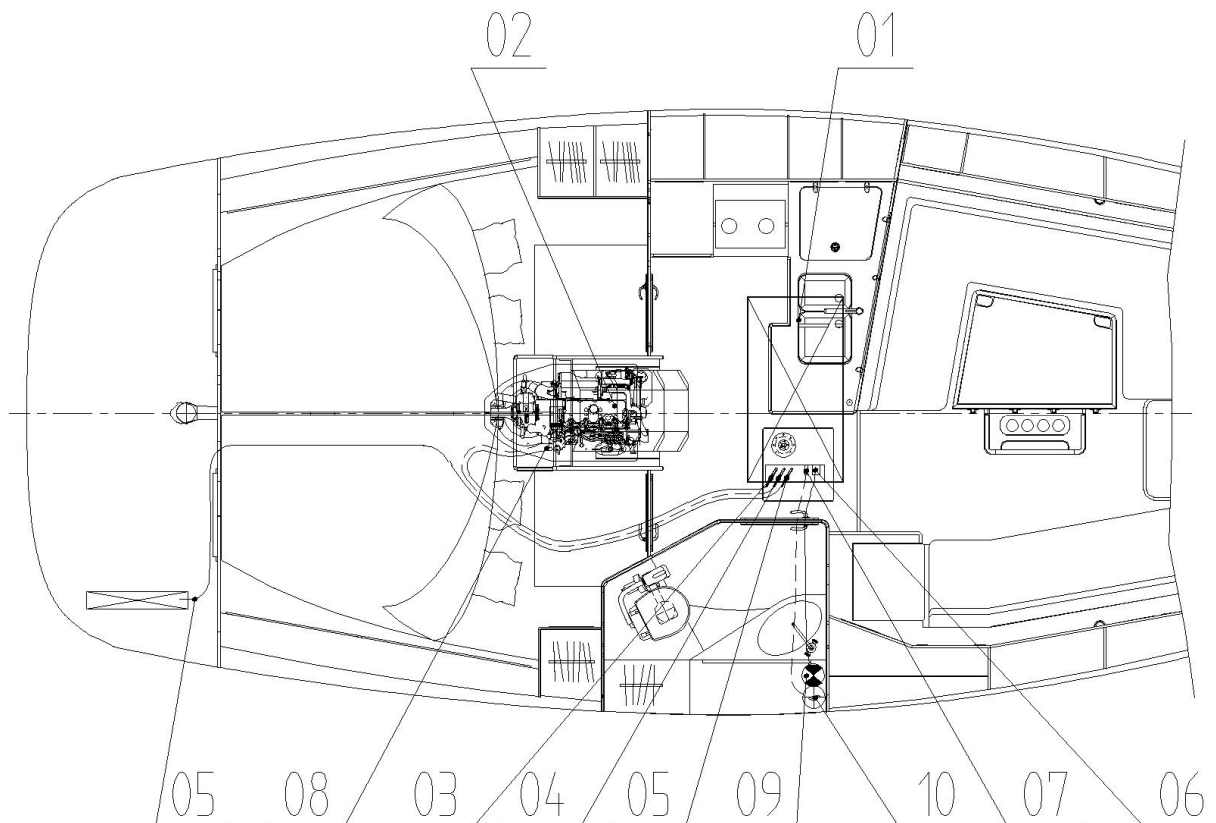

Figure 9
The fuel required for engine operation is stored in a fuel tank. The fuel tank has a capacity of 165 liters. The fuel tank is stowed under the galley floor (see Fig. 9). Fuel tank is accessed from the saloon by lifting the floor panels.
- Fill the fuel tank with diesel via the deck filler. The position of the deck filler is shown in Fig. 9